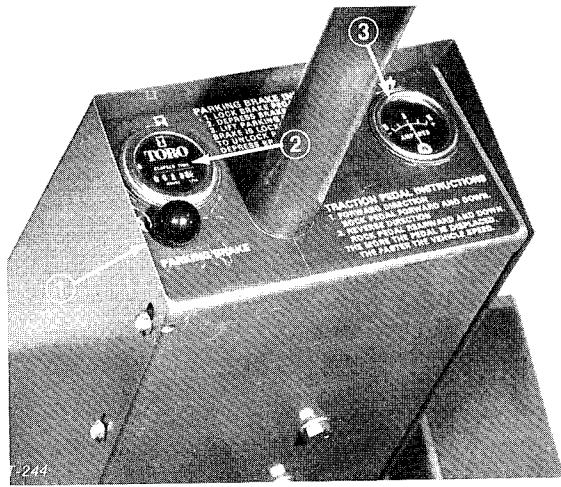
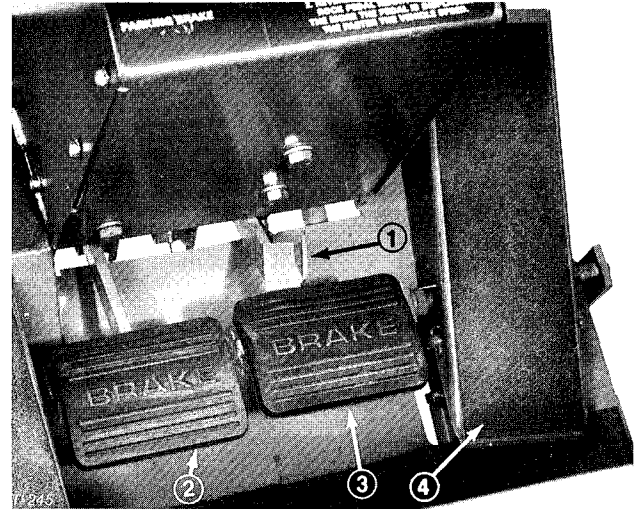

Figure 12
Figure 13
**Parking Brake** (Fig. 12) — Whenever the engine is shut off, the parking brake must be engaged to prevent accidental movement of the machine. To engage the parking brake, push lock arm (Fig. 13) on right brake pedal between the left brake and its lock tab. Next, push down fully on both pedals and pull parking brake knob out; then release the pedals. To release parking brake, depress both pedals until parking brake knob retracts. Before starting the engine, however, lock arm may be disengaged from left brake pedal so both pedals work independently with each front wheel.
**Hour Meter** (Fig. 12) — The hourmeter registers accumulated hours of engine operation. Use the hourmeter to determine intervals for service maintenance and lubrication.
**Ammeter** (Fig. 12) — Ammeter shows charge rate of the battery by the alternator. When engine is running, there must always be a slight charge, unless engine is idling slowly. Needle will point to 0 when battery is fully charged. By contrast, alternator is not charging the battery when needle points to (—) negative side of ammeter. If this happens, repair the charging system to prevent discharge of the battery.
**Service Brakes** (Fig. 13) — The left and right brake pedals are connected to the left and right front wheels. Since both brakes work independently of each other, the brakes can be used to turn sharply or to increase traction if one wheel tends to slip while operating on certain slope conditions. However, wet grass or soft turf could be damaged when brakes are used to turn sharply. To make a "quick-stop", depress both brake pedals together. Do not "quick-stop" with deck in transport position.
**Traction Pedal** (Fig. 13) — Traction pedal has two functions: one, to make the machine move forward, the other, to make it move rearward. Using the heel